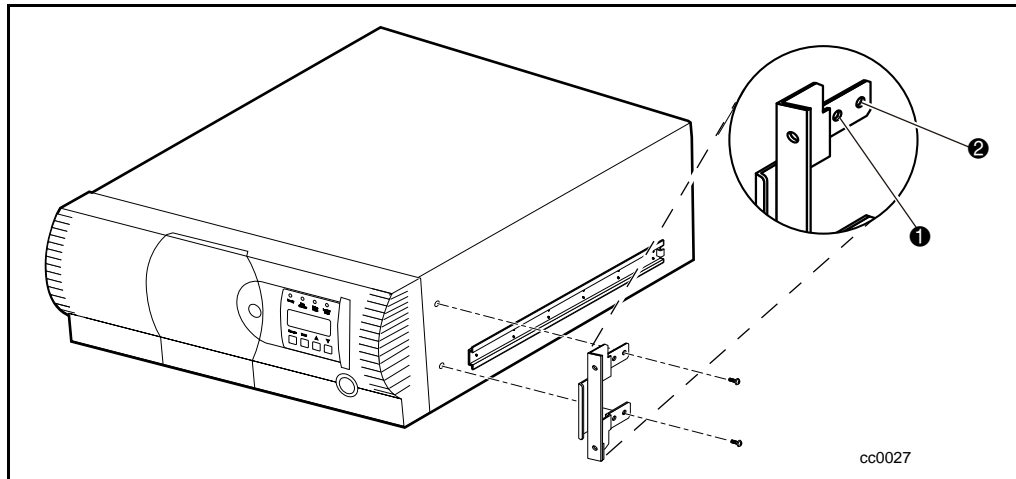

Figure C-8. Installing the panel extension
1. Place a panel extension against one side of the Library so that the holes in the panel extension are aligned with the two holes in the chassis (see Figure C-8).
NOTE: The panel extension has two pairs of mounting holes. Use the forward pair for the regular mounting position (❶ Figure C-8). Regular mounting leaves the curved front panel surface extending outward from the front of the storage cabinet. The rear pair of holes permit a flush mount position that leaves the front panel recessed into the storage cabinet (❷ Figure C-8). You might choose flush mounting if, for example, you have storage cabinet doors that would be hindered by the protruding front panel.